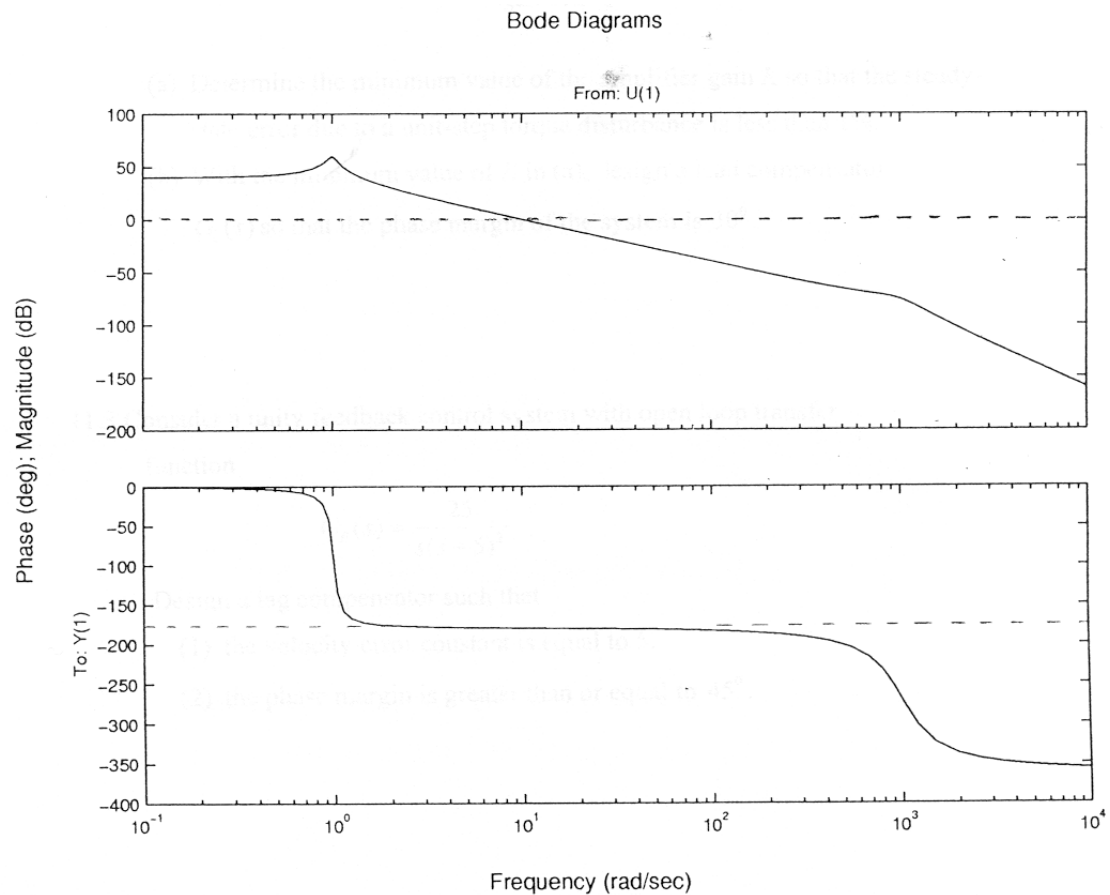

Figure 11.1
11.1 The frequency response of an industrial process is as shown in Figure 11.1. Design a lead compensator that will yield a cross frequency of 10 rad/s and a phase margin of 50° .